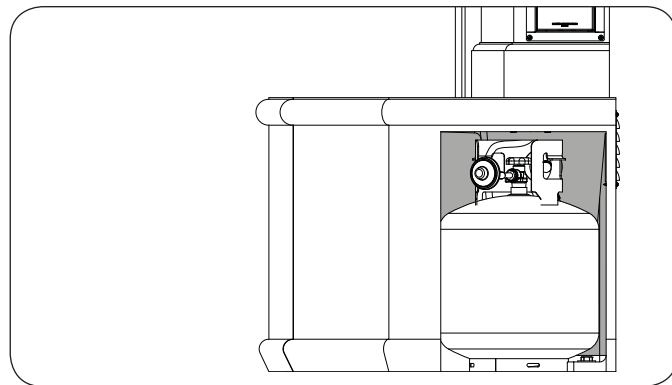

Fig. 21-3 L.P. Cylinder placement
2. The propane cylinder (not included) is to be located inside the hearth, via the storage door opening (see Fig. 21-3).